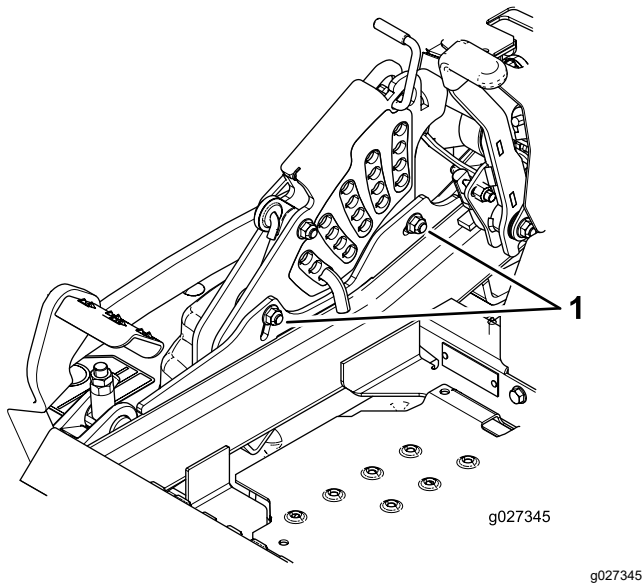

Figure 105
10. To adjust the single-point system, loosen the 2 bolts at the bottom of the height-of-cut plate (Figure 105).
12. Tighten the 2 bolts at the bottom of the height-of-cut plate (Figure 105).